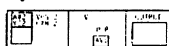

Fig. 54.
- 3 Select the desired source with Δ or ∇ . (See Fig. 54)